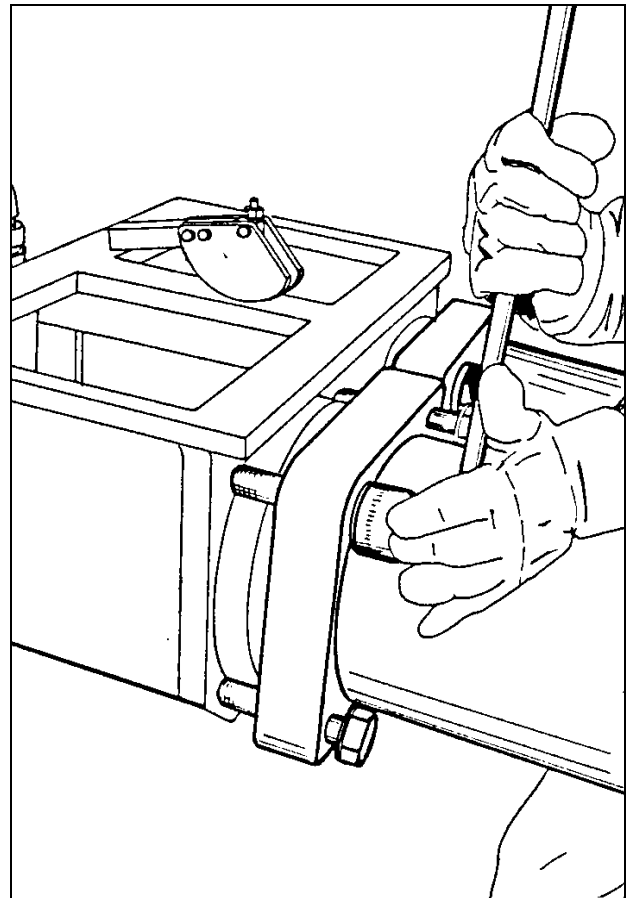

Fig. 1
- Remove the top cover of the water box (Fig. 1).